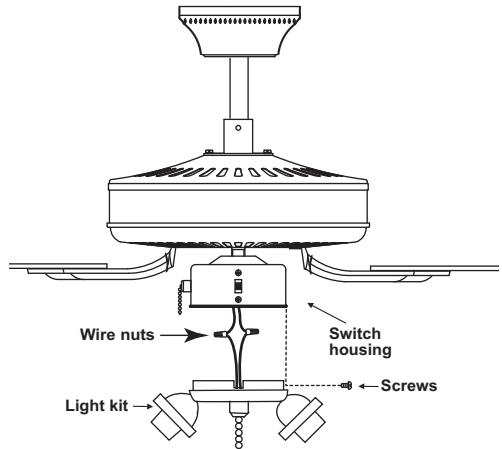

Figure 13
Step 1. Raise and hold the light kit close to the switch housing and proceed to do the wire connections, connect the blue wire from the switch housing to the black wire from the light kit. follow the same procedure with the black connectors. Use the wire connecting nuts supplied with your fan. (Fig. 13)
Step 2. Attach the light kit to the switch housing by using the three (3) screws provided. (Fig. 13)